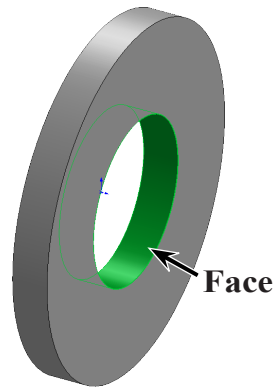

Fig. 6
Step 1. Click a cylindrical face to select it, Fig. 6.